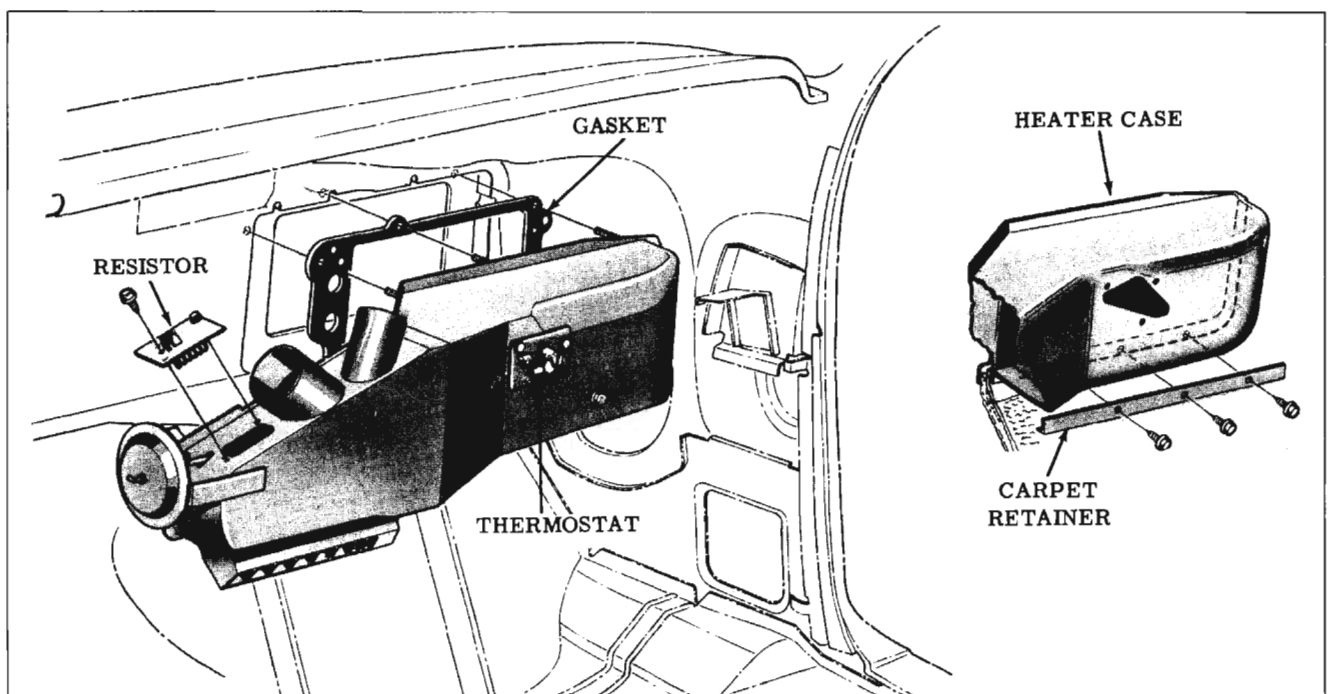

Fig. 15-7 Heater Attachment
- c. Remove the six heater inlet to cowl attaching nuts and washers and remove heater inlet assembly. (Fig. 15-7)
To install reverse the removal procedure. Apply sealer as indicated in Fig. 15-7.
A vacuum tank, located next to the heater inlet in the engine compartment, provides a constant supply of vacuum to operate the vacuum diaphragms. (Fig. 15-7) The vacuum tank is retained with two sheet metal screws.